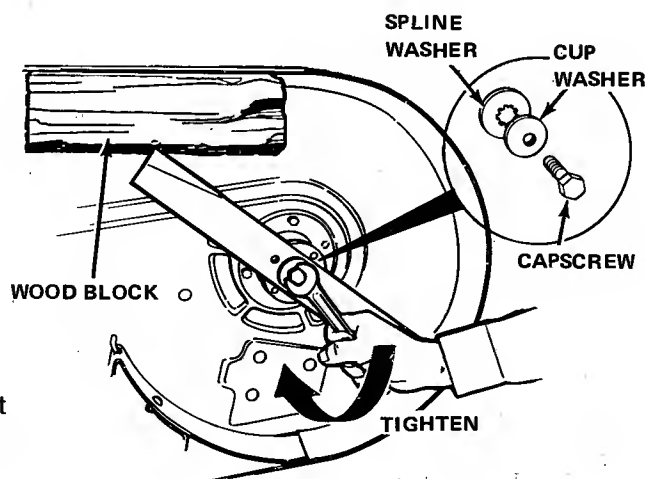

Figure 24. Check, Sharpen, and Balance Mower Blades (Yearly Care or as Needed)
5. Check, sharpen and balance the mower blades. (See figure 24).
3. Mower cut is rough looking.	A. Engine speed too slow. Set for three-fourths to full speed. B. Tractor ground speed too fast. Use lower gear. C. Blades dull and require sharpening. See figure 24. D. Mower drive belt slipping. Belt oily or worn. Clean or replace belt as necessary. Readjust belt tension.
5. Excessive mower vibration.	<p>A. Blade mounting screws are loose. Torque to 50 Ft. Lbs. (68 N m).</p> <p>B. Mower blades, arbors, or pulleys are bent. Check and replace as necessary.</p> <p>C. Mower blades are out of balance. Remove, sharpen, and balance blades (see figure 24).</p>